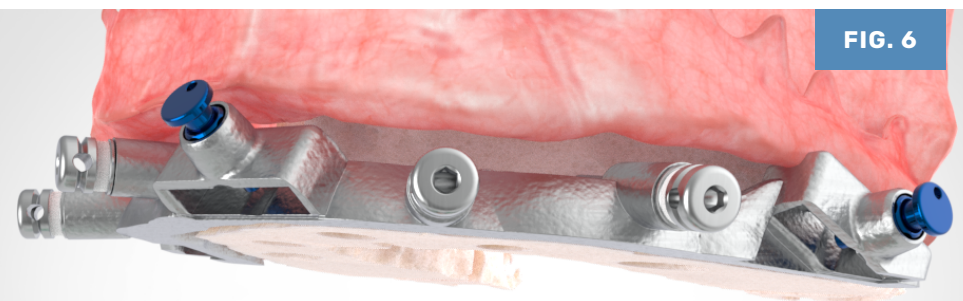

FIG. 6
3. Complete bone leveling. **(FIG. 6)**